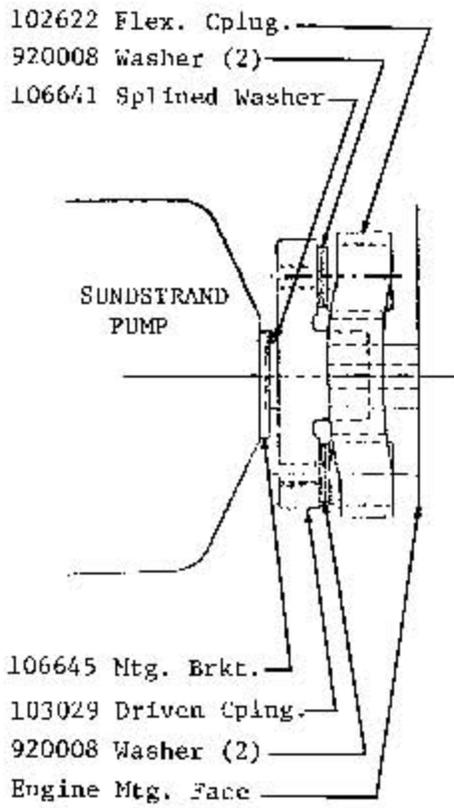

Fig. 1. Kohler Engine >
5. Assemble the new 103029 driven coupling to the flexible coupling, placing two 920008 flat washers, supplied in kit, between the two parts at each bolt hole location (see Fig. 1 or 2 as applicable).